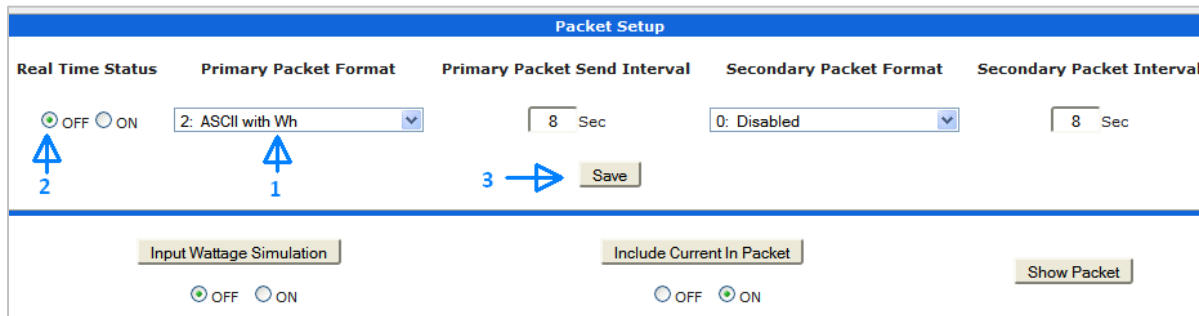

Figure 2
Referring to Figure 2 (1), select the desired packet format.
Set “Real Time Status” to OFF. See Figure 2 (2).